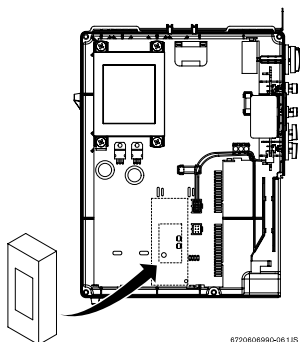

Fig. 4 Support correct position
- ▶ Remove the other protective cover and fix the remote control PCB as shown in Fig. 4.